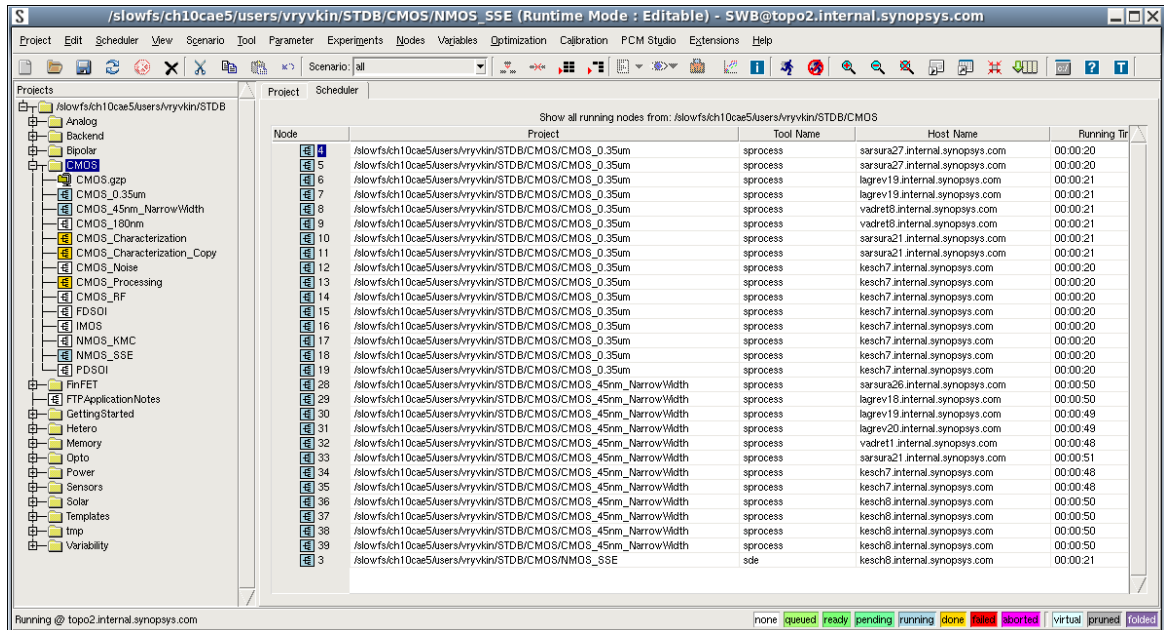

Figure 3 Main window of Sentaurus Workbench showing the Scheduler tab
- Choose **Scheduler > Show Scheduler**, or click the **Scheduler** tab (see Figure 3 on page 8).